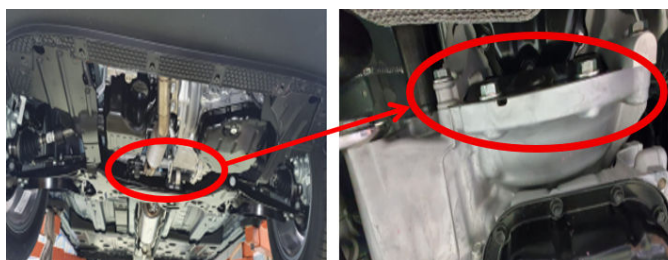

Fig. 1
3. Check for the presence of oil in the engine area coupling between the engine and transmission, and the flywheel seal area Fig. 1.
4. Is there presence of oil in the coupling area between the engine and transmission Fig. 1?